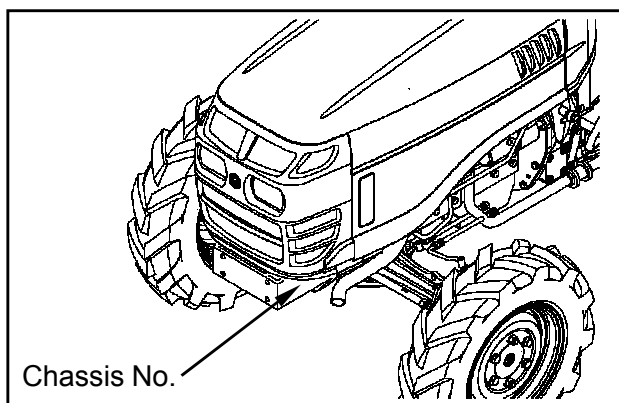

Fig.1-1
- Chassis No. : on the Left side of the engine frame. (See Fig. 1-1)